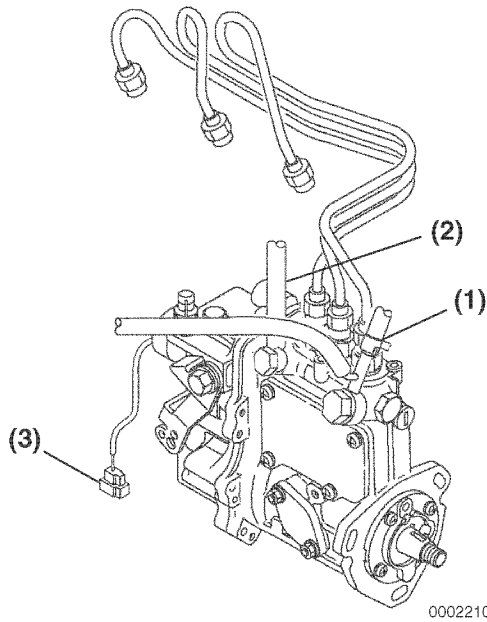

Figure 7-8
7. Disconnect the fuel return lines from the fitting on the fuel injection pump (Figure 7-8, (1)). Plug the open ends of the lines to minimize leakage and prevent contamination.
8. Remove the fuel supply line (**Figure 7-8, (2)**) from the fitting on the fuel injection pump.
11. Separate the stop solenoid wiring connector (**Figure 7-8, (3)**).